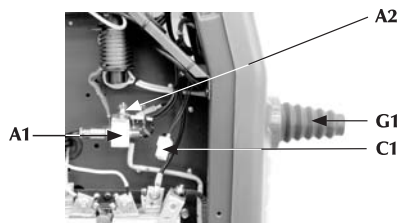

Fig. 5
- Check that all the components of the torch are present and correctly fitted and connect the torch fitting to the connector on the generator as shown in figure 5.